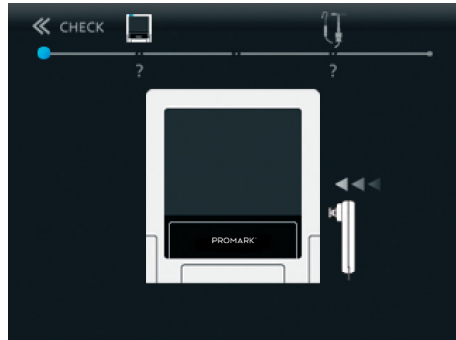

Fig. 29 Insert the tester
- Plug the tester in the device as shown on the screen (Fig. 29).